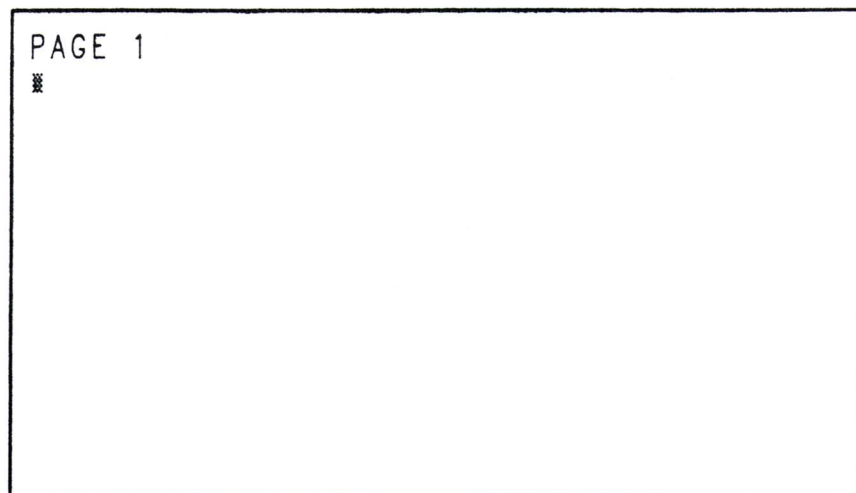

Figure 5-2
- 6) Now we'll start changing the Display Page so we can see the results of the messages we've been sending, beginning with the command ESC D 01. Send this, and the screen will immediately change to look like Figure 5-2. We can now see the text we sent to page 01 in steps 3 and 4 above.
- 1) Type the command ESC N, which will move the screen to page number 01. The screen should again look like Figure 5-2.